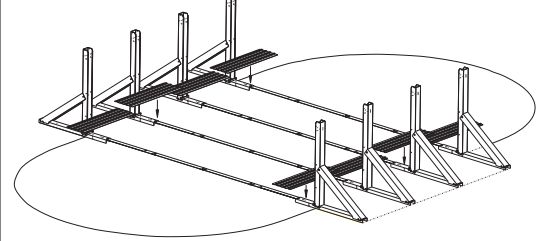

**Fig. 34**
- The four 39" bottom rails are for the "corners." One side snaps into the straight side connector on the final straight side upright, while the other side slides into a bottom plate or bottom cuff as shown in Fig.33 or Fig.34.